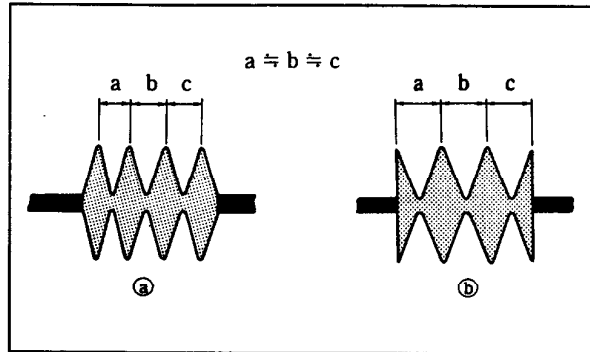

Fig. 62
- 1) Play back the tracking alignment tape and select the **REV** mode. At this time, waveform peak pitches must be uniform. (Fig. 62 (a)) When they not uniform, make tracking adjustment in 4-2 and No. 11 guide (TG-11) adjustment in 4-4.
- 2) Select the **CUE** mode. At this time waveform peak pitches must be uniform. (Fig. 62 (b)) When not uniform, make tracking adjustment in 4-2.